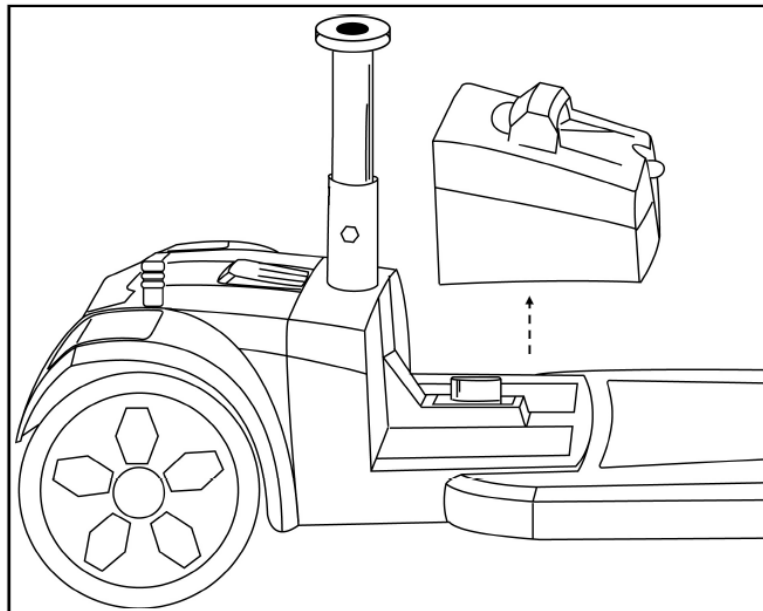

Figure 16: Removing the Battery Back
4. Lift the battery pack off the scooter. See Figure 16.